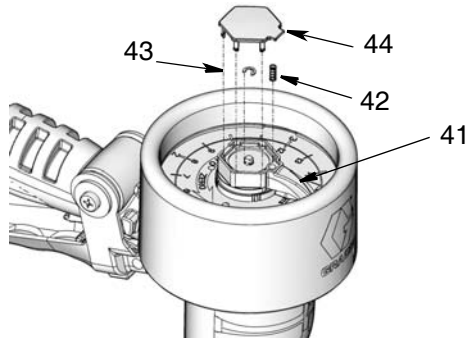

FIG. 25
6. Install small retaining ring (43), pointer pin (41) and pointer spring (42). Install the cover (44). (FIG. 25).